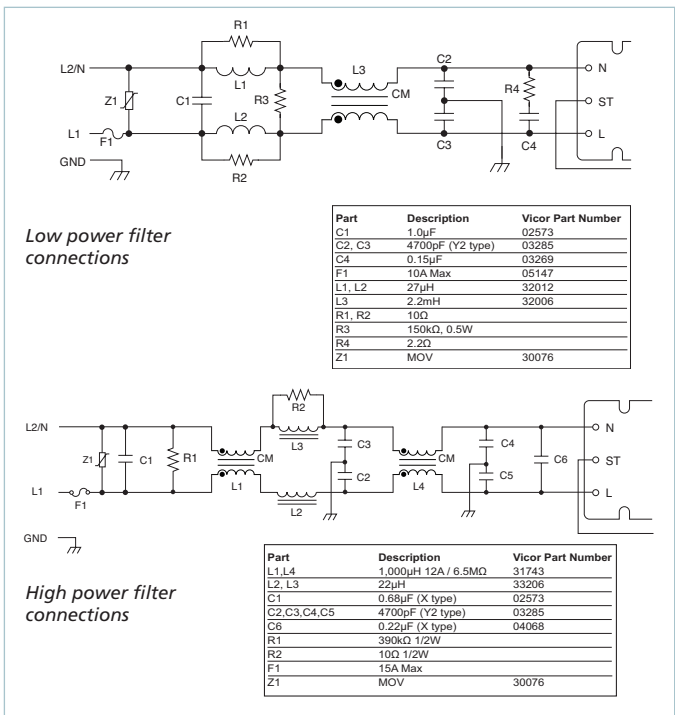

Figure 13 — Filter connections
**Filter:** Two input filter recommendations are shown for low power VI-ARM-x1 and high power VI-ARMB-x2 (See Figure 13). Both filter configurations provide sufficient common mode and differential mode insertion loss in the frequency range between 100kHz and 30MHz to comply with the Level B conducted emissions limit.